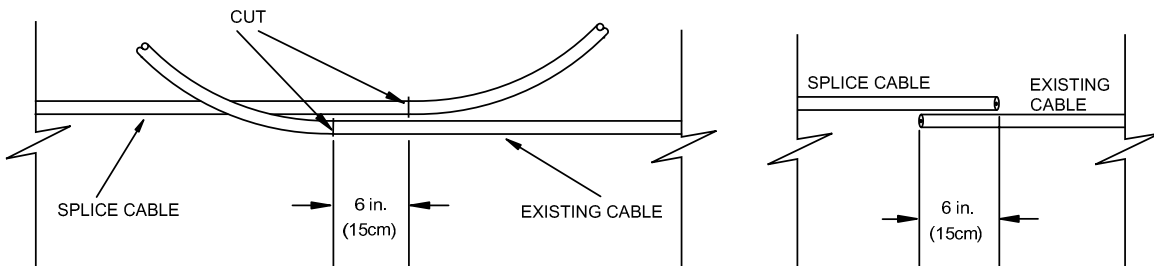

Figure 6.25 – Preparing Cables for Splicing
The splicing instructions for the MTS are shown in the following steps 1 through 10 and as illustrated in Figures 6.25 to 6.31.
- **Step 1:** Cut away the damaged section of cable. Lay the existing cable and the new section of splice cable back in the trench. Cut the cables to a length that leaves an extra 6 inches of cable when brought end-to-end as shown in Figure 6.25.